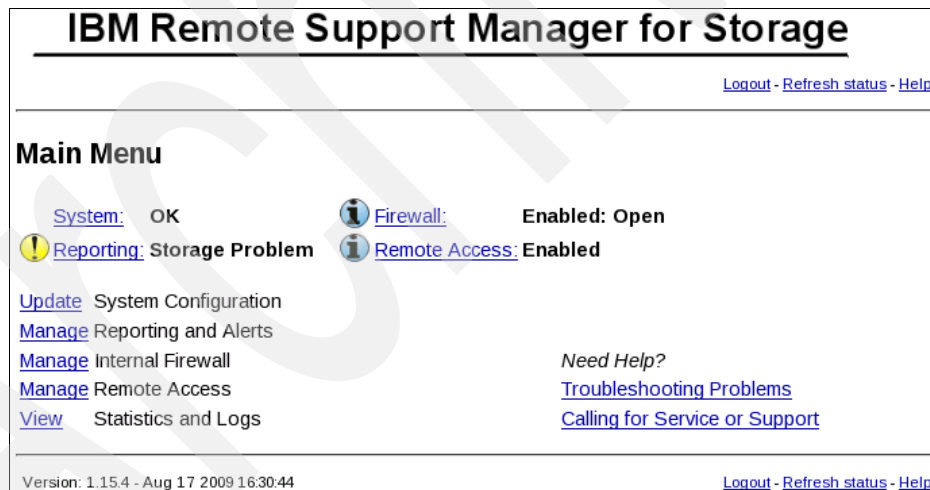

Figure 6-29 Main Menu: Storage Problem
1. When RSM receives SNMP alerts from one of the defined storage subsystems, an attention mark (!) is shown next to the reporting link, as shown in Figure 6-29. Click **Reporting** to see the alerts.